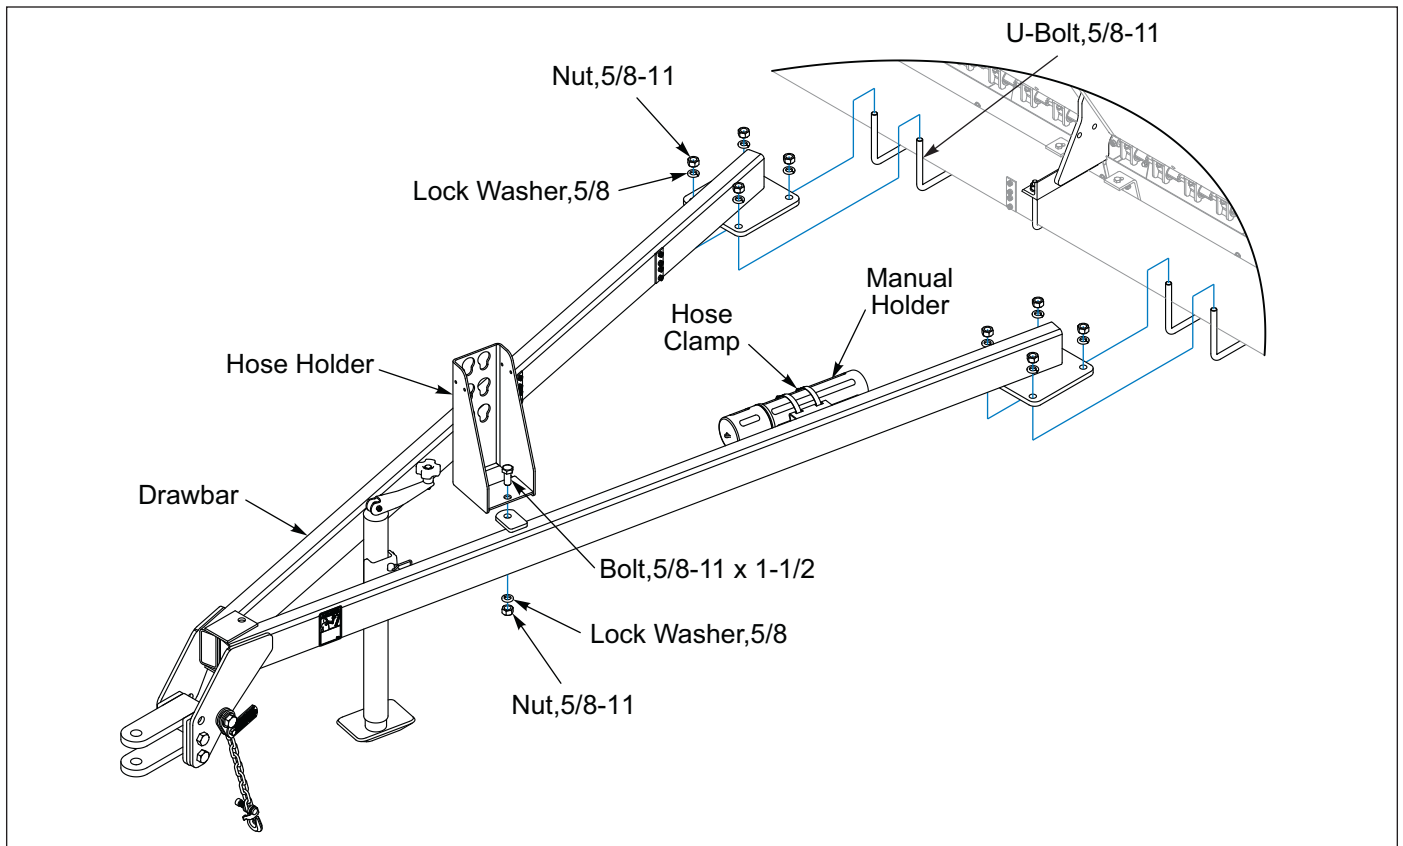

Figure 2-6: Drawbar Installation
2. Center Drawbar in relationship with the Seed Box Center Bracket. Attach Drawbar to Seeder Frame Tube with 5/8-11 U-Bolts, Lock Washers and Nuts. **See Figure 2-6.**